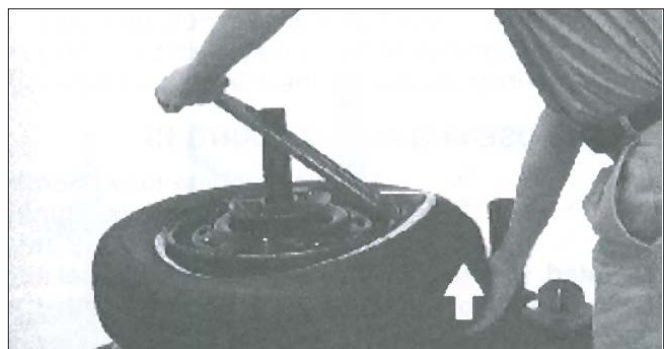

Figure 8 - Removing Upper Bead
**10.** Press down on the foot pedal. The counterclockwise rotation of the center post key and combination tool will remove the upper tire bead from the rim. Lifting up on the tire with the left hand as shown by the arrow in figure 8 helps in demounting tougher tires.